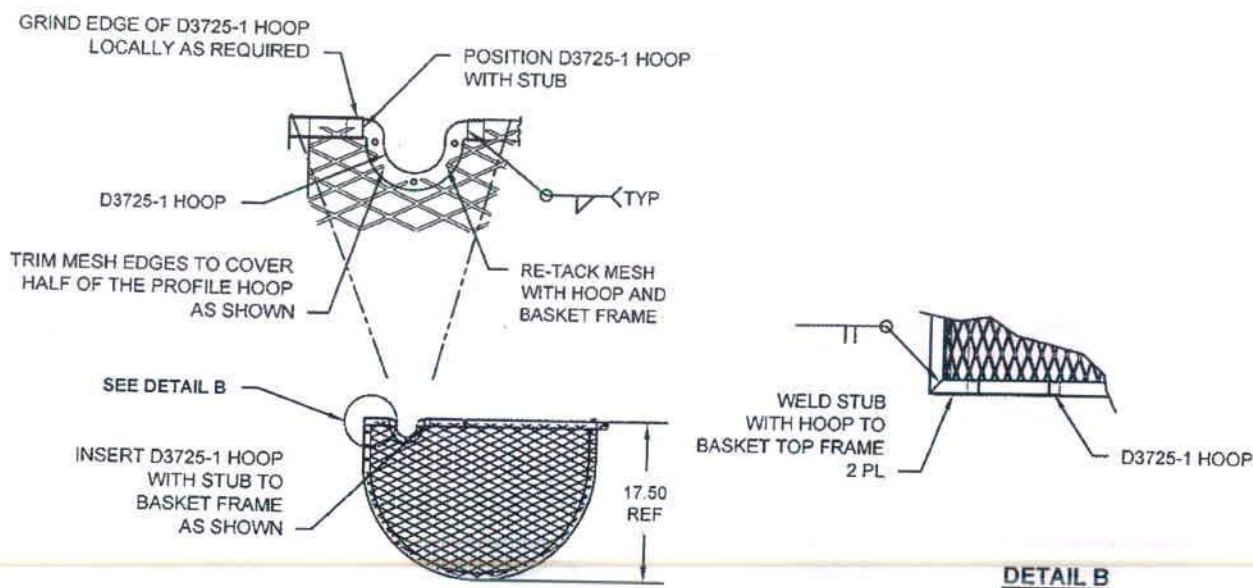

FIGURE 2. - HOOP WELDING DETAIL
9. Install D3725-1 Hoops and stubs. Tig weld stubs and hoops to existing basket base top frame using ER316L filler rod per AWS D17.1 2001 Class "A" per Figure 2.
10. Tig weld base top frame to existing basket base using ER316L filler rod per AWS D17.1 2001 Class "A" per Figure 2.